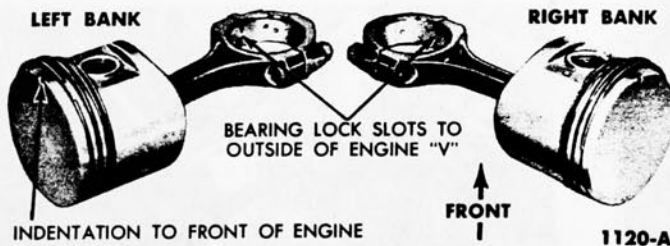

FIG. 30—Connecting Rod and Piston Assembly
1. Lubricate all parts with light engine oil. Position the connecting rod in the piston and push the pin into place. Assemble the piston and connecting rod with the oil squirt hole in the connecting rod positioned as shown in Fig. 30.